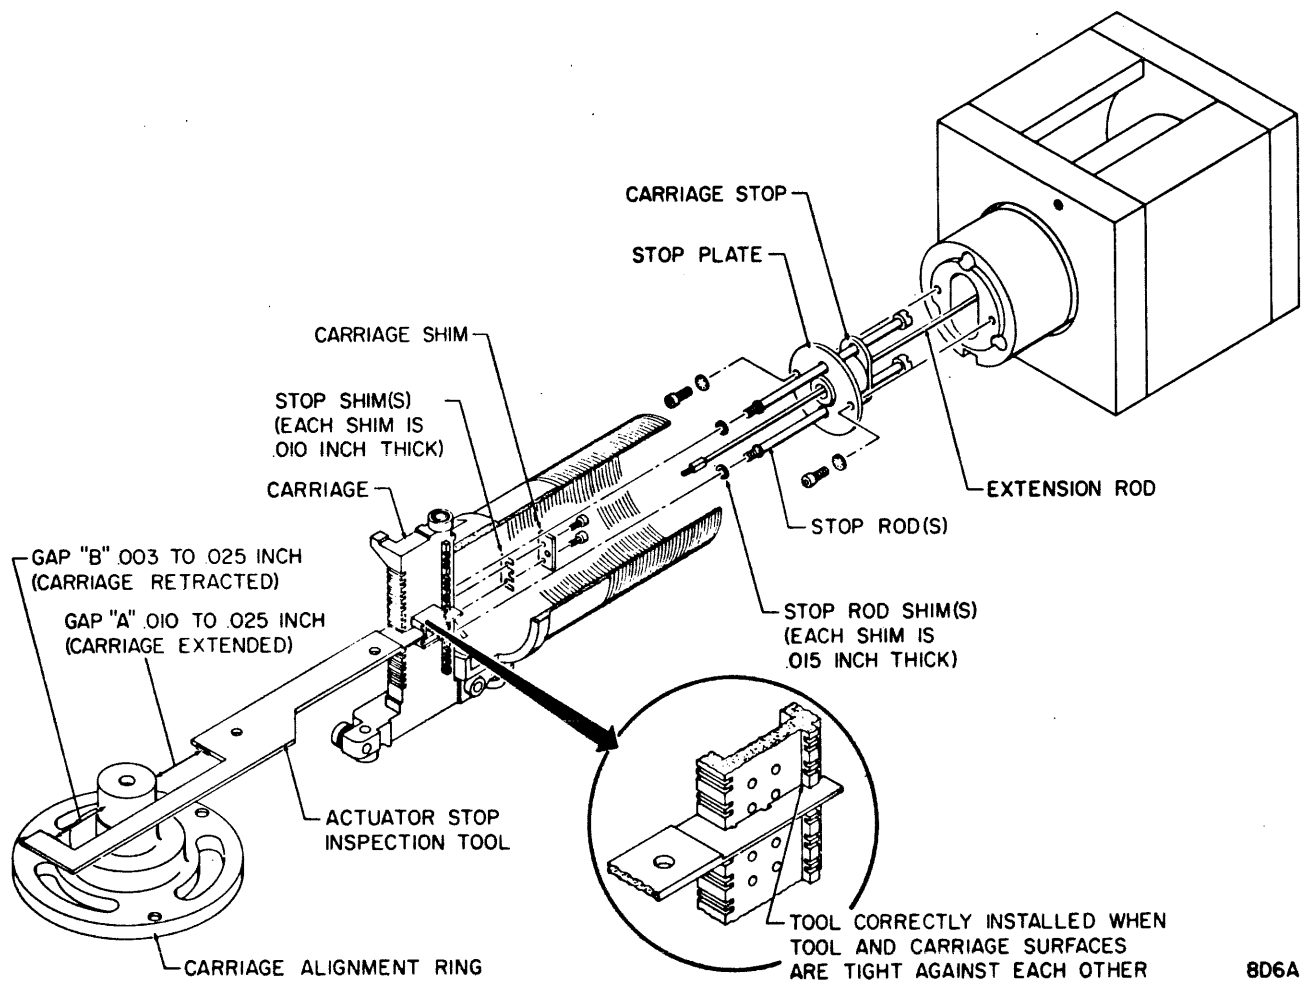

Figure 3-18. Carriage Stop Adjustment
15. Remove two screws securing forward stop plate to stop mount (Figure 3-18).
27. Refer to figure 3-18 and inspect replacement actuator for presence of stop rod shims. If not shims were installed, proceed to step 28. If shims are installed, proceed to step 31.